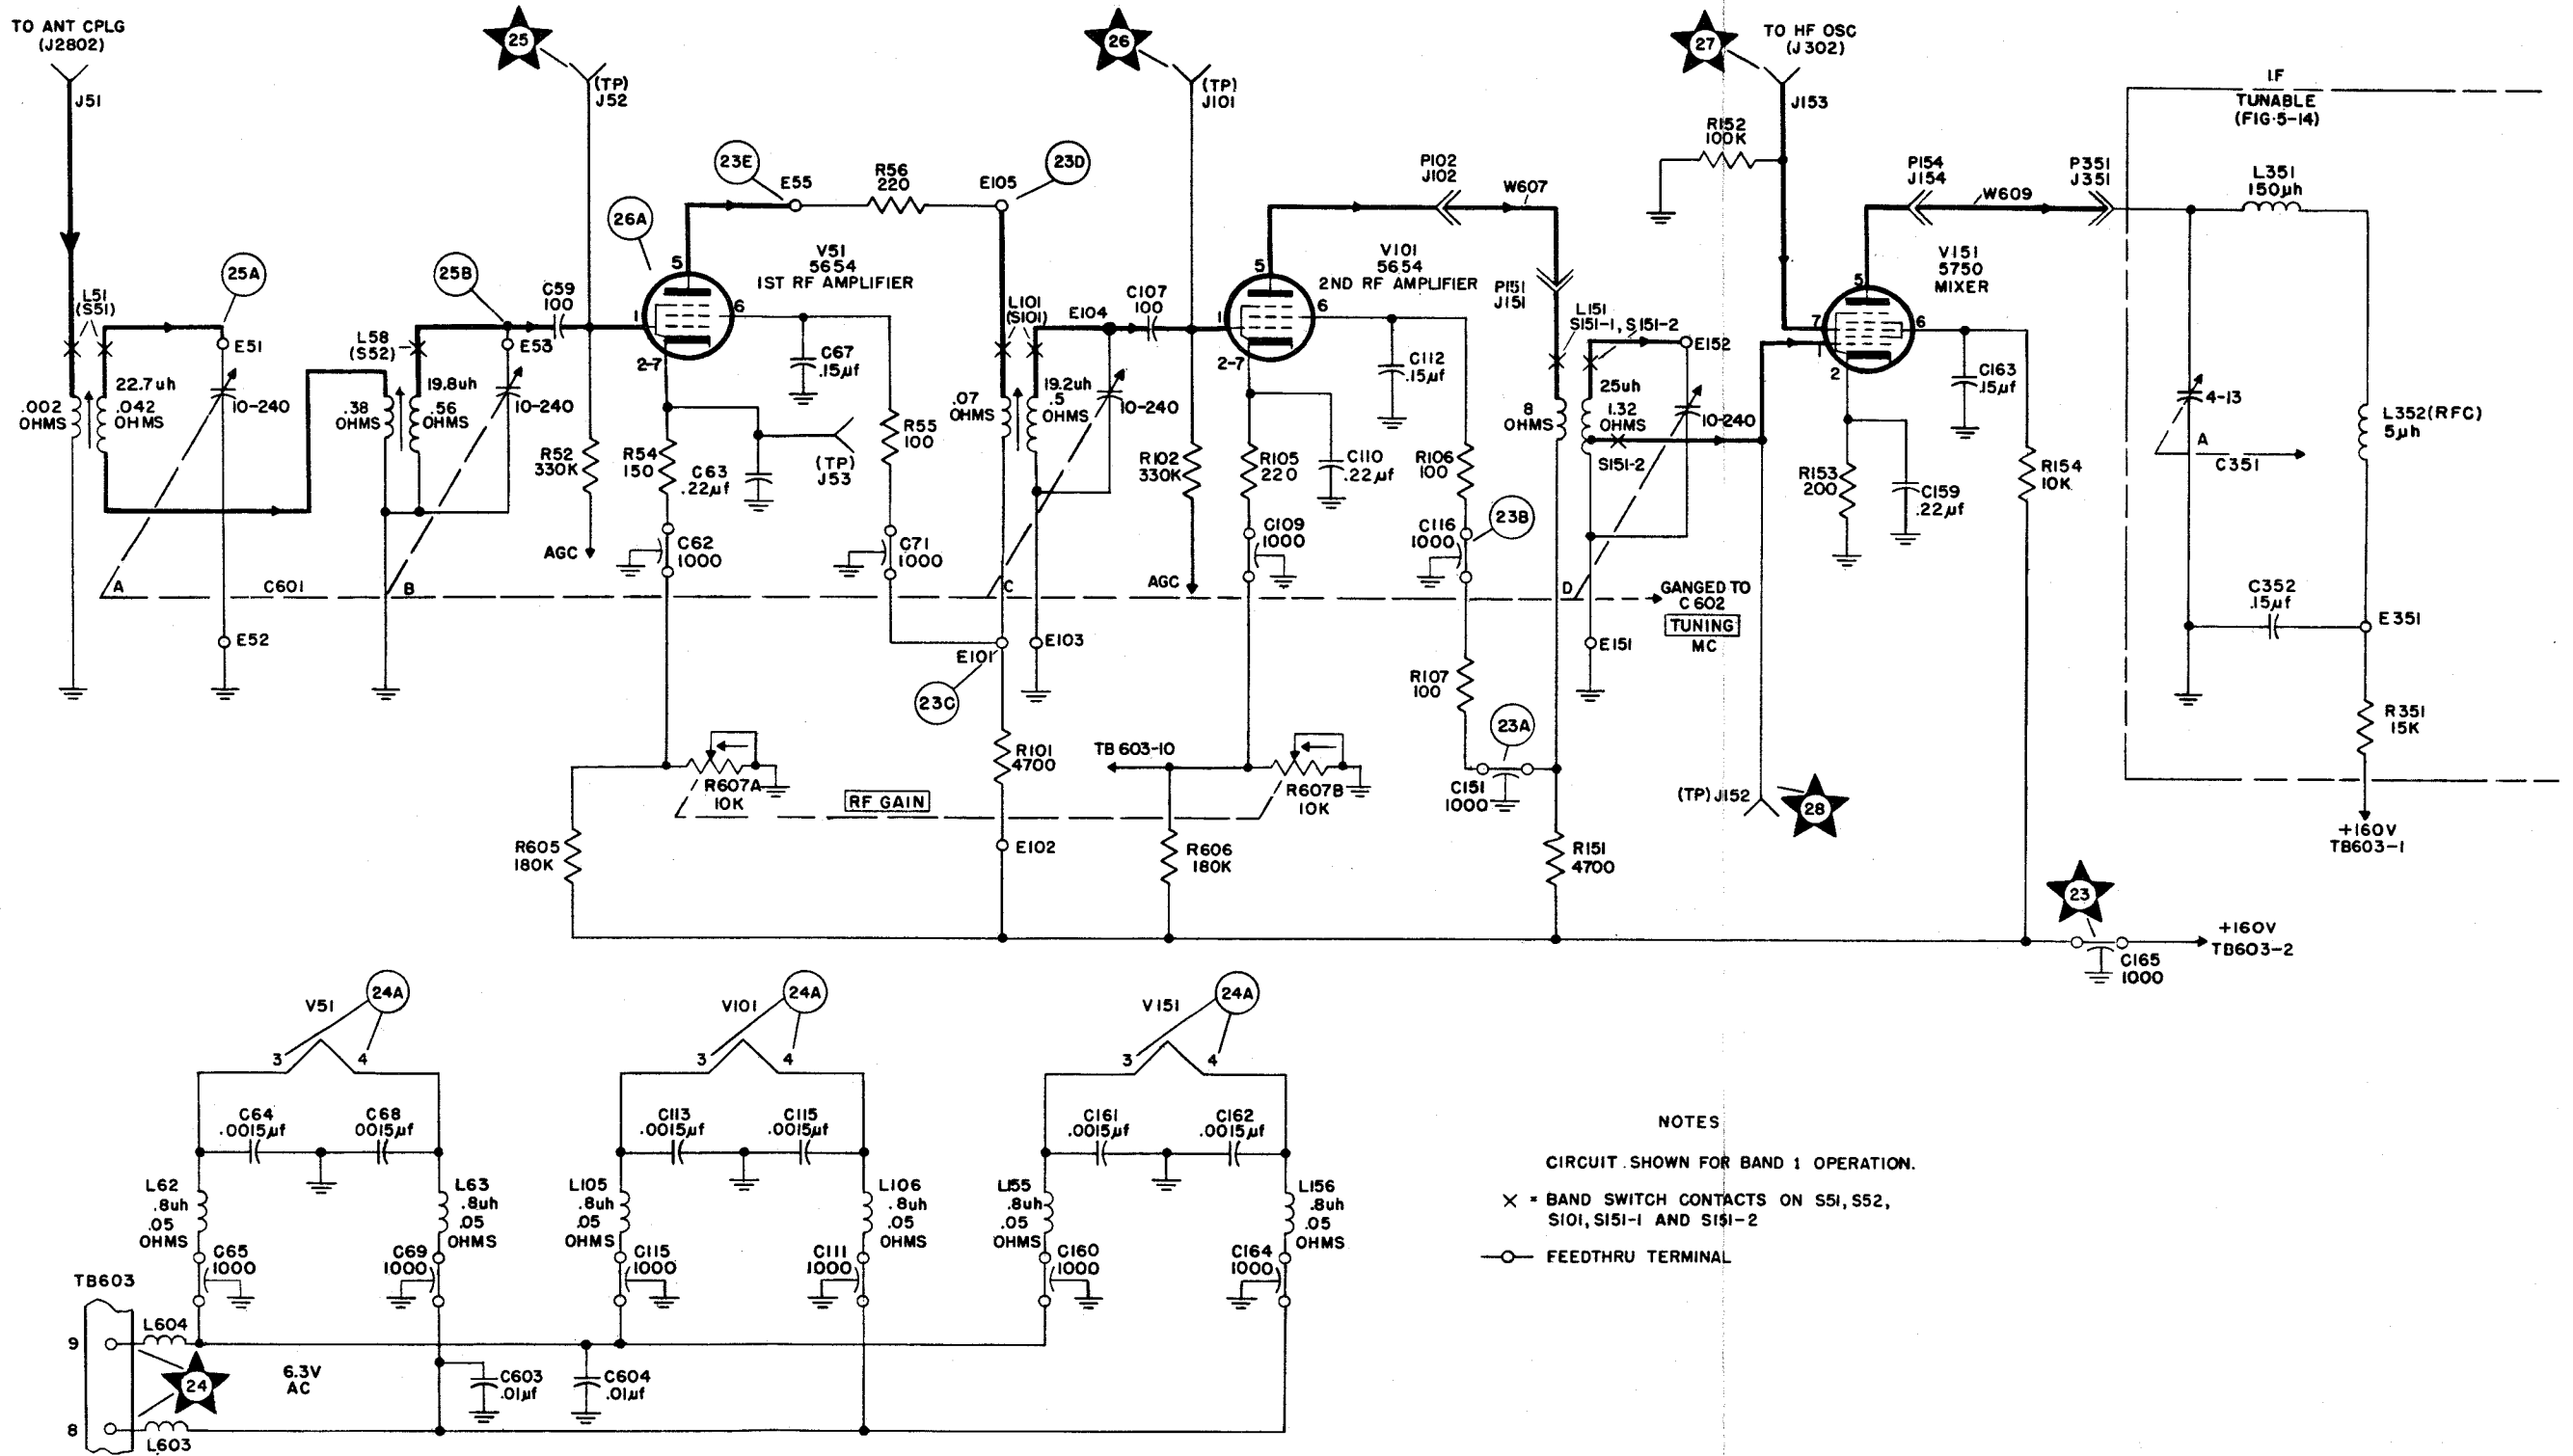
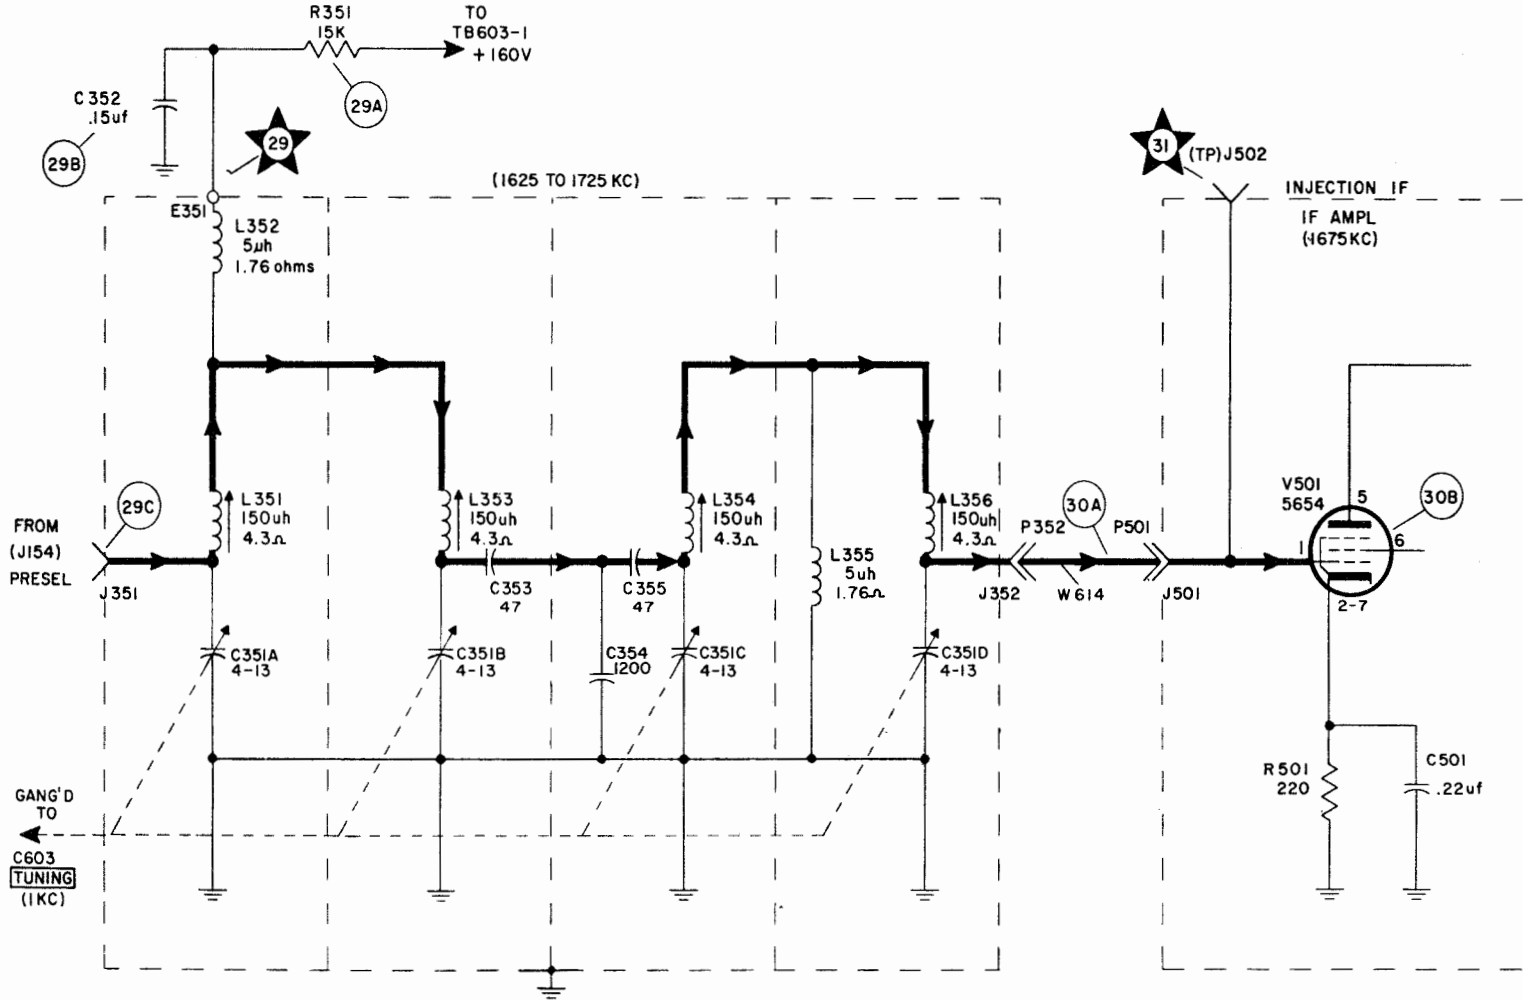
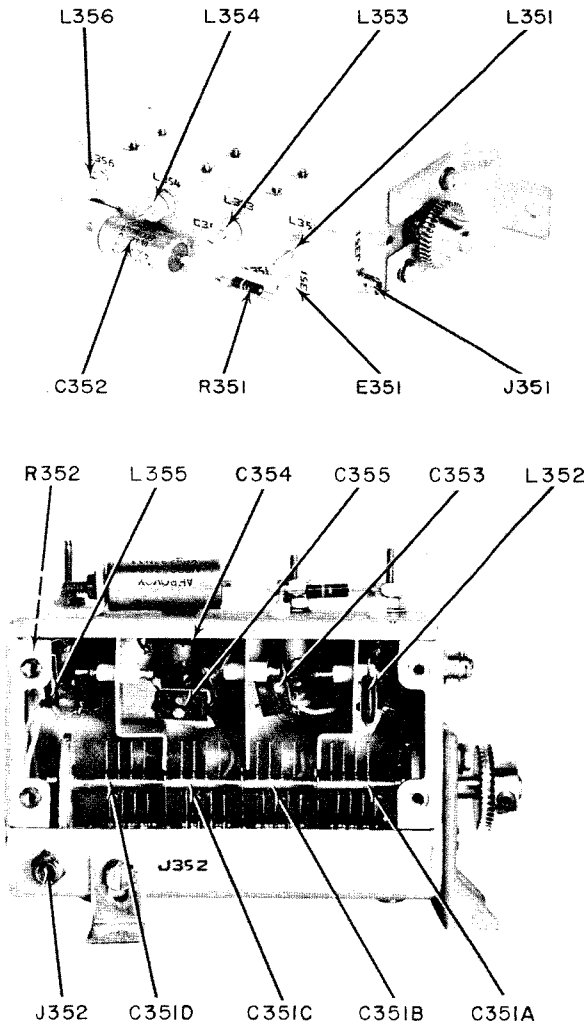
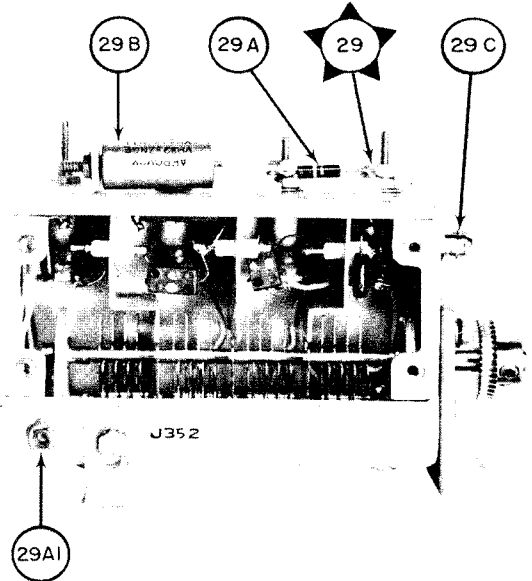

Figure 5-11. Preselector, Functional Schematic Diagram
Figure 5-14. Tunable IF Filter, Functional Schematic Diagram
Figure 5-15. Tunable IF Filter, Location of Parts
Figure 5-16. Tunable IF Filter, Location of Test Points
a. FUNCTION.—The preselector consists of the first and second RF amplifier stages and the first conversion mixer stage. Faulty operation of the preselector can reduce the strength of received signals or prevent reception completely. Figure 5-11 is a functional schematic diagram of the preselector.
a. DIAGRAMS.—Figure 5-14 is a functional schematic diagram of the tunable IF filter. Refer also to figure 5-11, the functional schematic diagram of the preselector, because the plate circuit load for V151, the preselector mixer stage, is part of the tunable IF filter circuit. Figure 5-15 shows the location of parts of the tunable IF filter and figure 5-16 the location of test points.
- (1) Input and output connectors J351 and J352
- (2) Soldered connections at chassis feed-through E351.